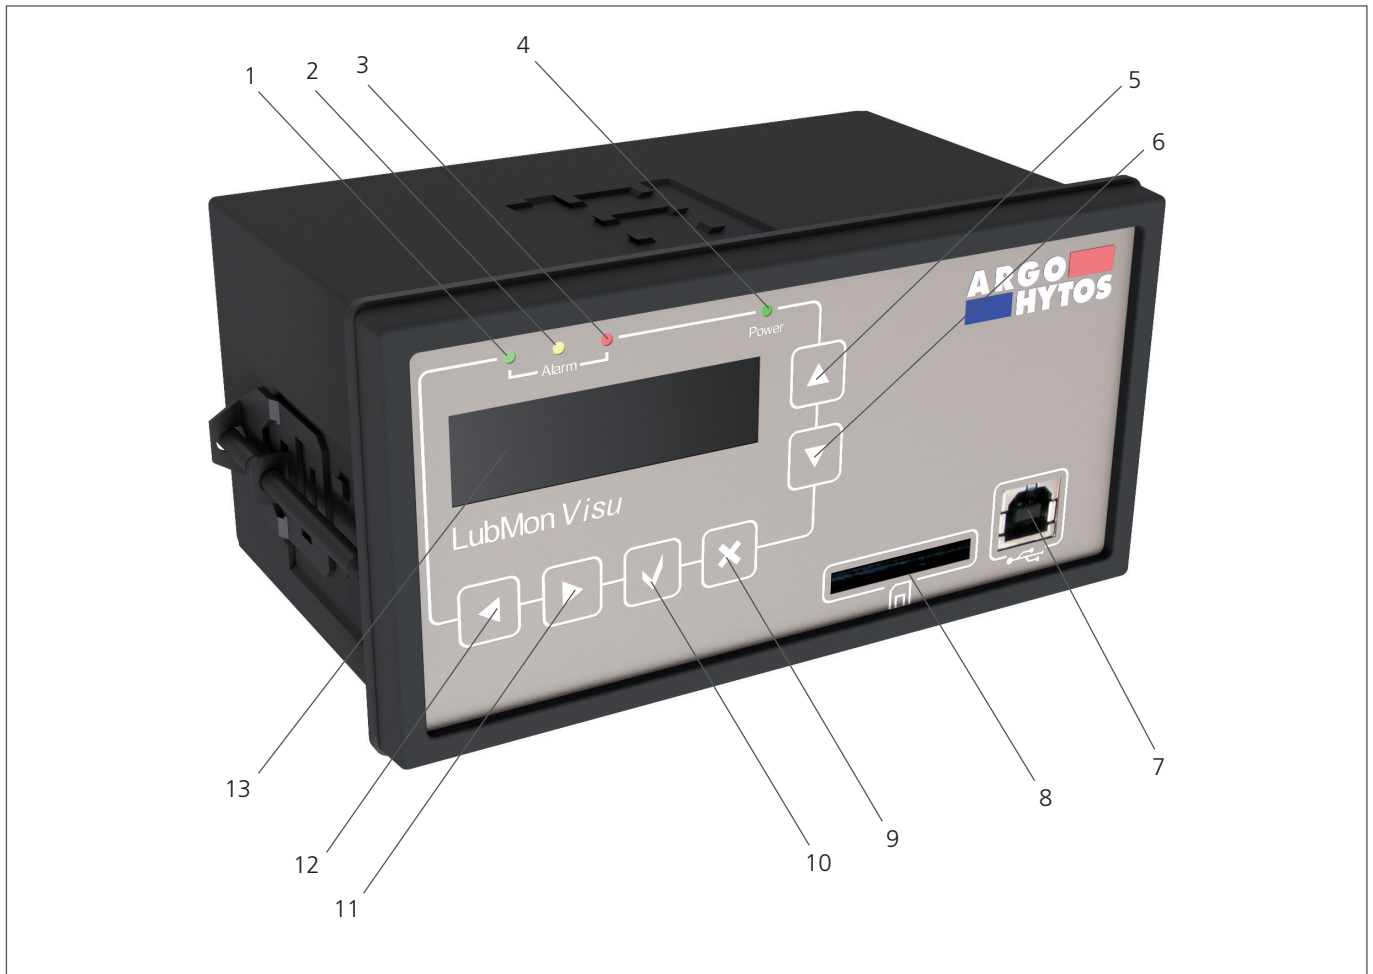

Fig.9: Control panel
1. Connect a data cable to the USB (Type B) jack ("Fig. 9: Control panel" on page 18) pos. 7.